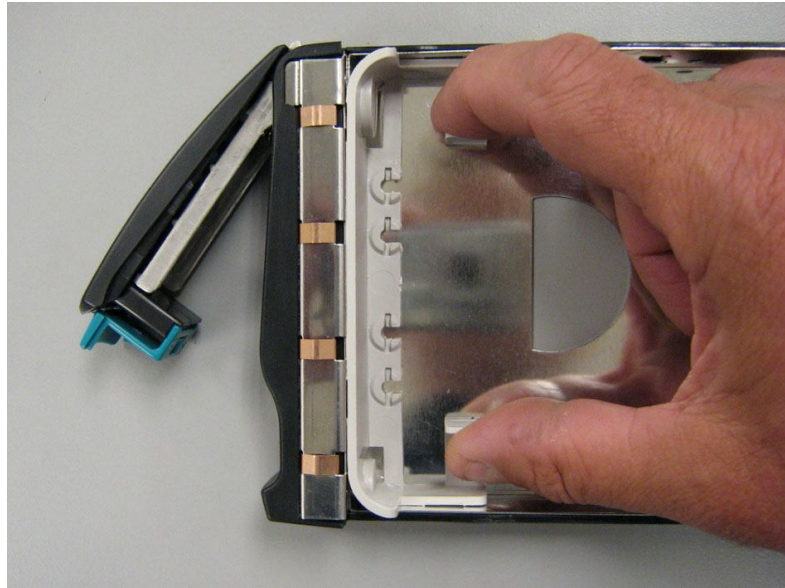

Figure A-9 Removing the Plastic Air Dam Piece
1. Remove the plastic air dam from the tray by squeezing the two levers together and lifting the piece out of the tray as shown in Figure A-9.